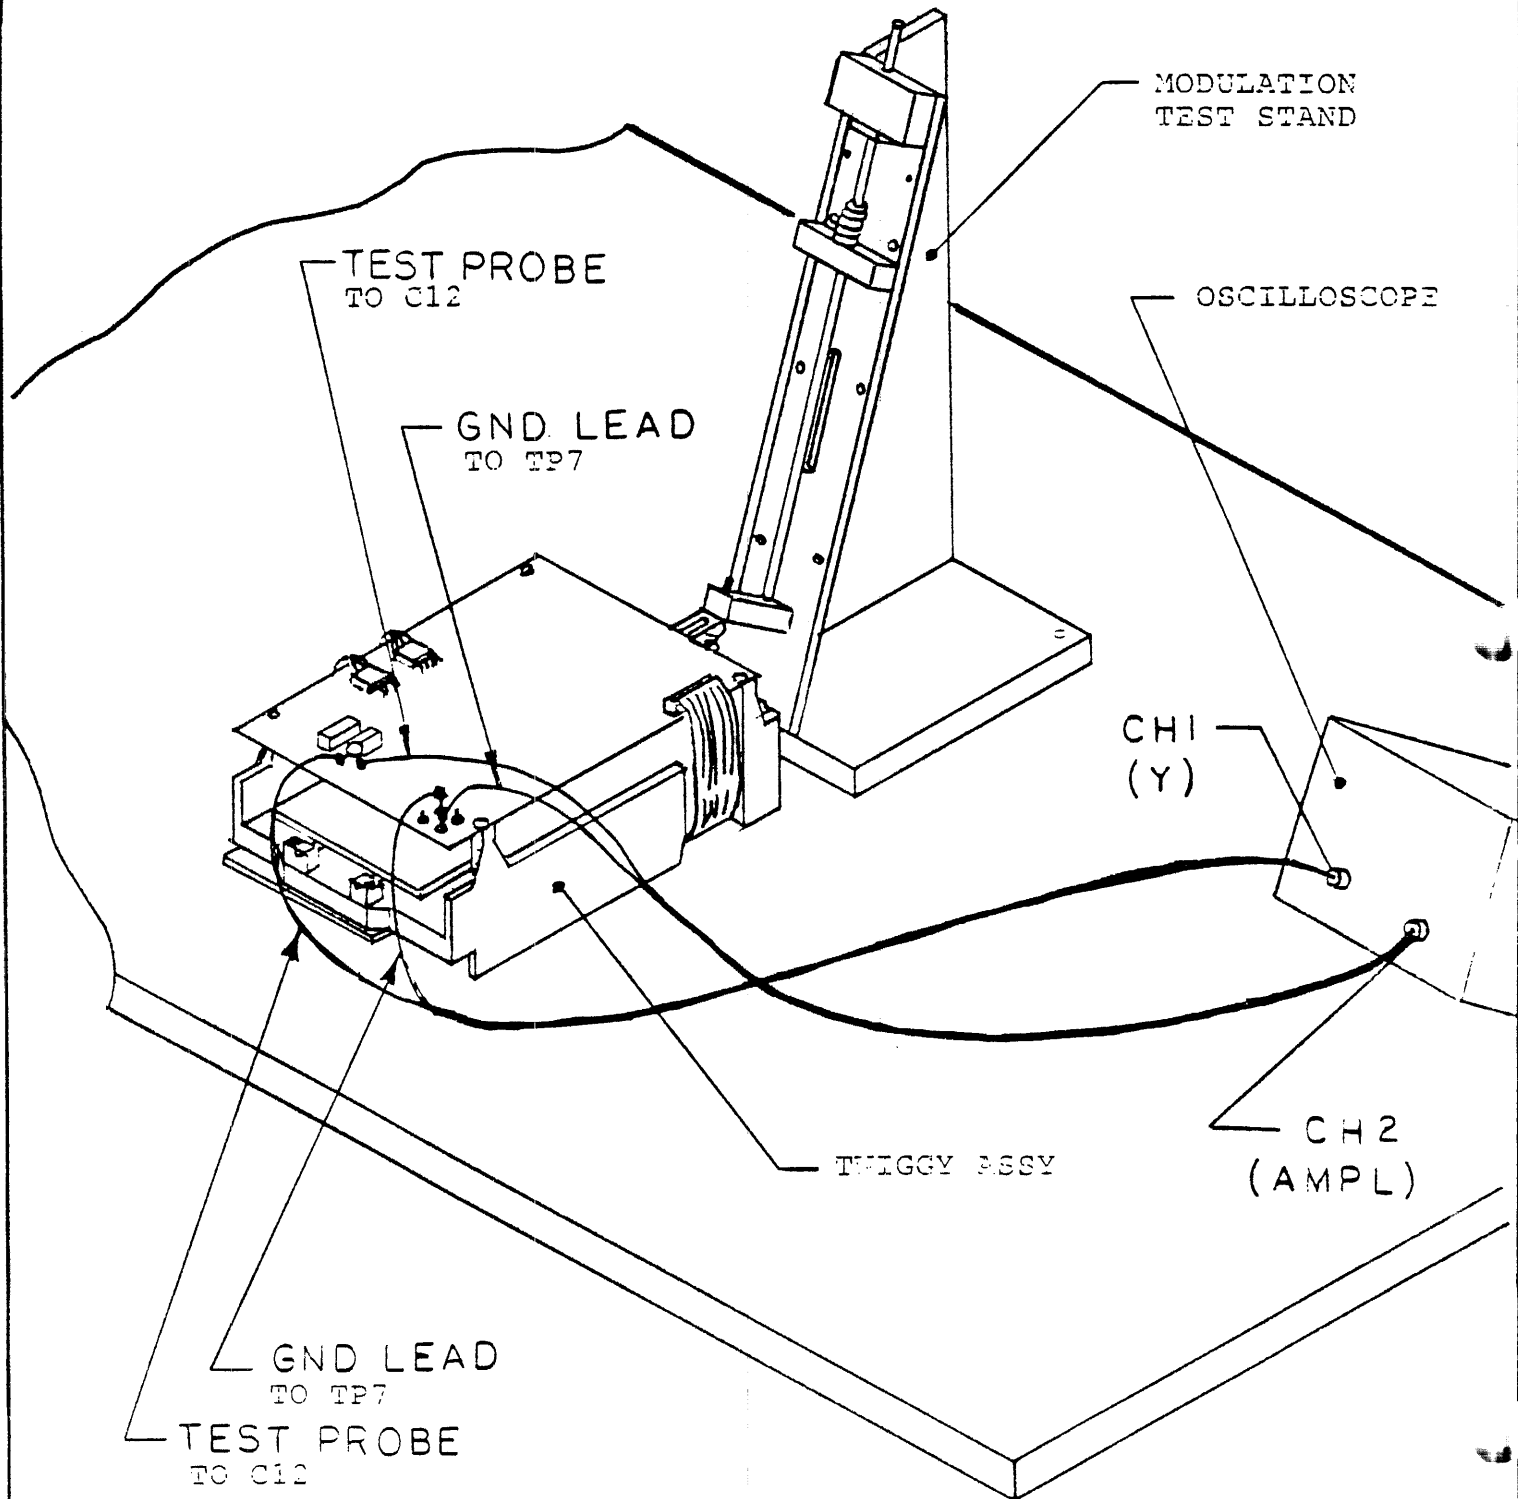

FIG. 1: PLACEMENT OF MODULATION TEST STAND
- 7.2.2 Connect the two scope test probes to each side of C12 on the analog board, and the ground leads to the analog ground points at TP 7 and TP 5. (See Fig. 1.)
- 7.3.3 Place the modulation test stand on top of the rear edge of the froggy as shown in Fig. 1.